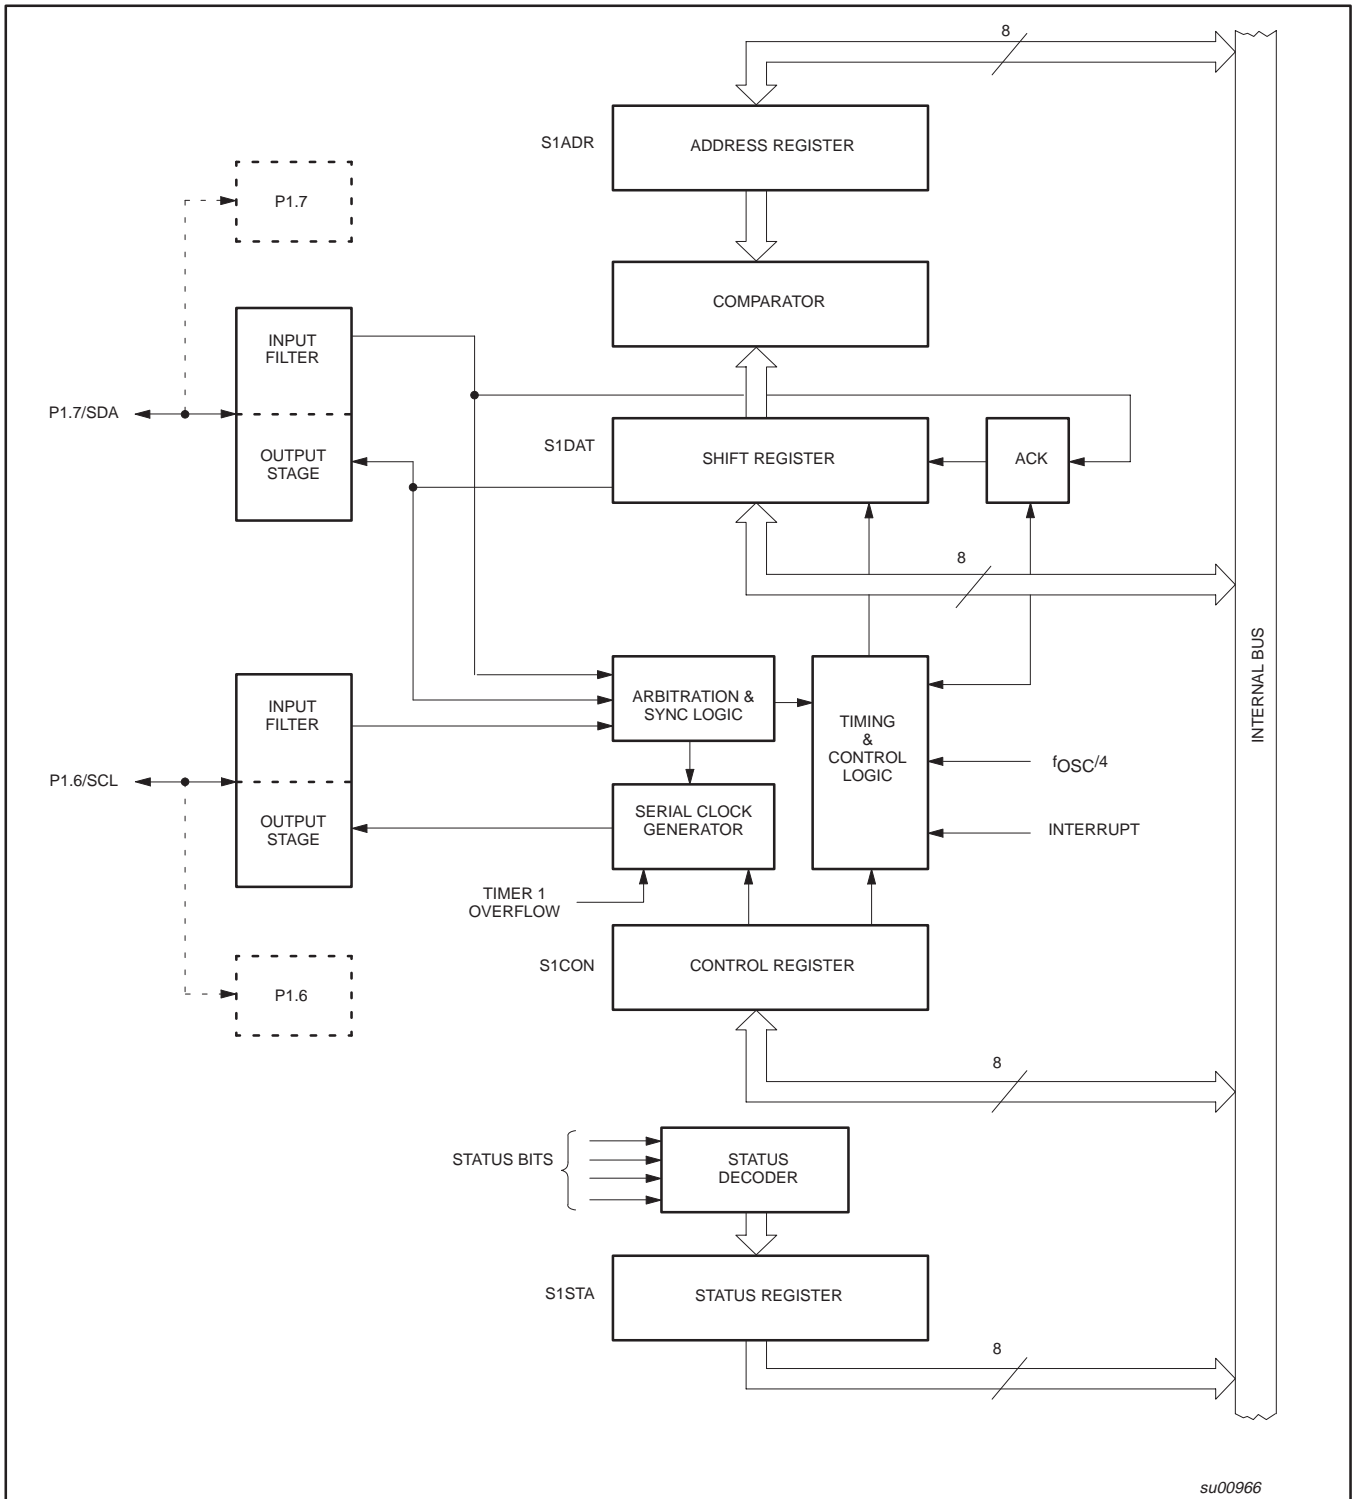

Figure 35. I2C Bus Serial Interface Block Diagram
**SIO1 Implementation and Operation:** Figure 35 shows how the on-chip I2C bus interface is implemented, and the following text describes the individual blocks.